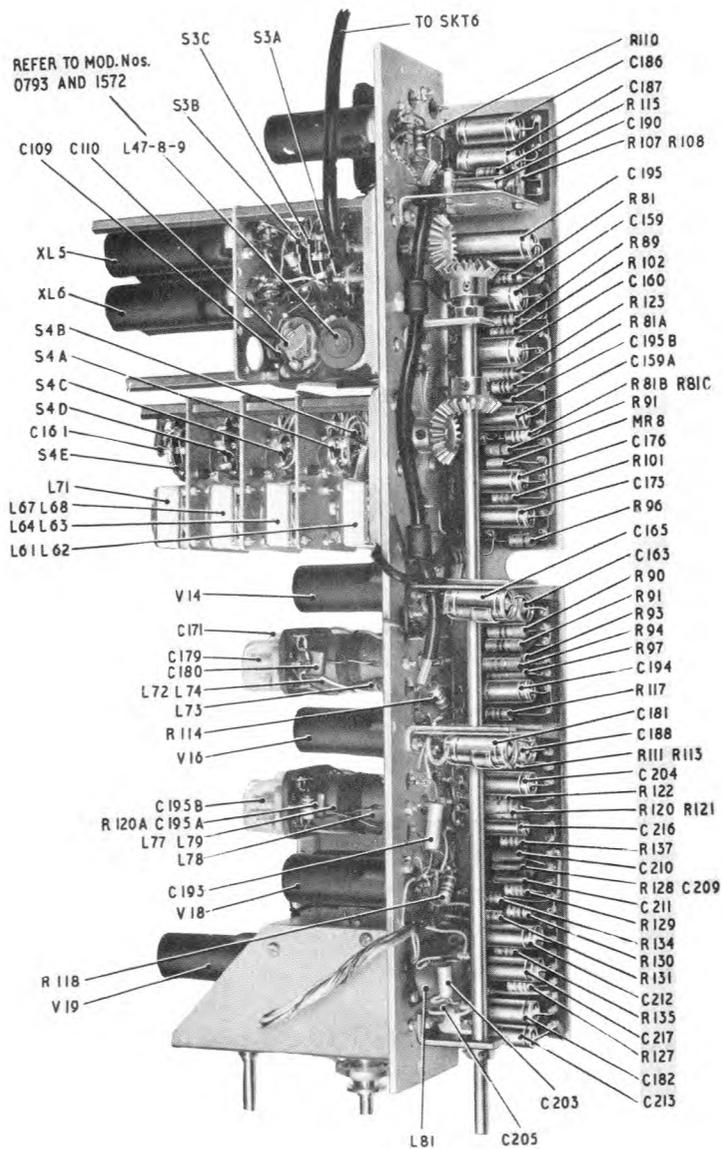
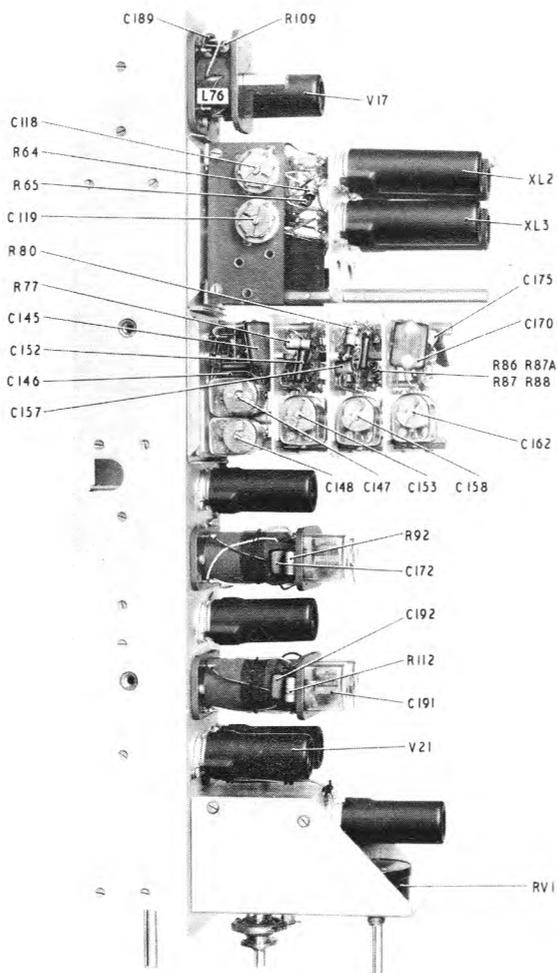

Fig.1 100 kc/s i.f. amplifier - right side
Fig. 2. 100 kc/s i.f. amplifier—left side
10. Retune the signal generator to the mean of f_1 and f_2 and adjust capacitors C110 (fig. 1) and C148 (fig. 2) for maximum output.
21. Repeat the procedure in para. 9 to 19 with signal generator frequency settings of 100925 c/s, 100800 c/s and 99200 c/s respectively. Adjust phasing capacitor C118 only (fig. 2). The 6dB bandwidth should be between 80 and 120 c/s, and the deviation from the mean less than 25 c/s. For 100 μ A output, the input should be approximately 150 μ V.